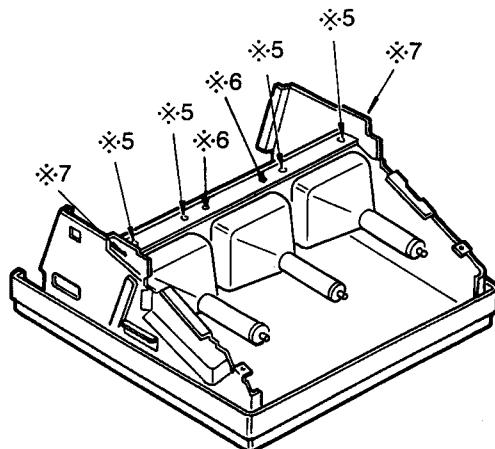

Fig. 42
- (4) Return the unit to its Original position, and remove the four screws designated '※ 5'. [Fig. 42]
If you have difficulty adjusting the CRTs, loosen screws "※ 6" and "※ 7" [Fig. 42] slightly. Be sure to re-tighten after adjustment.
After insuring the proper CRT positions tighten the four "※ 5" screws [Fig. 42].